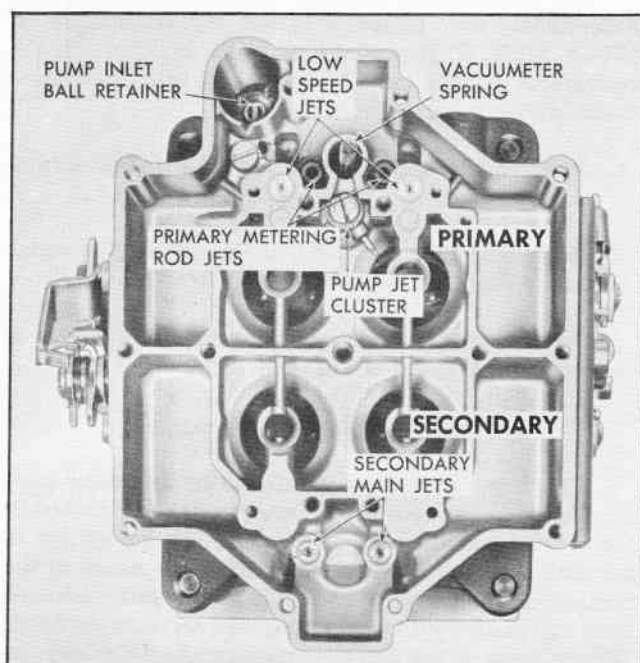

Fig. 13 Carburetor Body Top View
2. Remove vacuumer spring (Fig. 13).
6. Install steel pump inlet ball check and retainer (Fig. 13). Press retainer into place with a 5/16" six point socket.